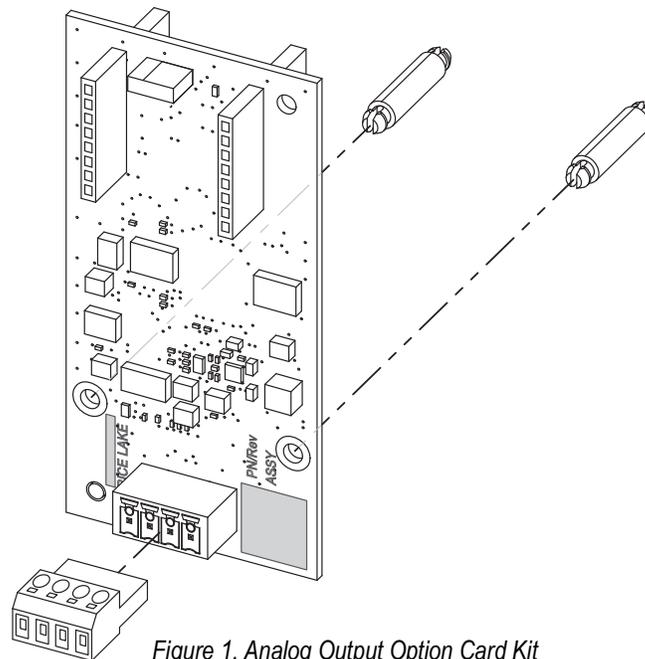

Figure 1. Analog Output Option Card Kit
3. Connect the two standoffs to the option card board as shown in Figure 1 on the previous page.